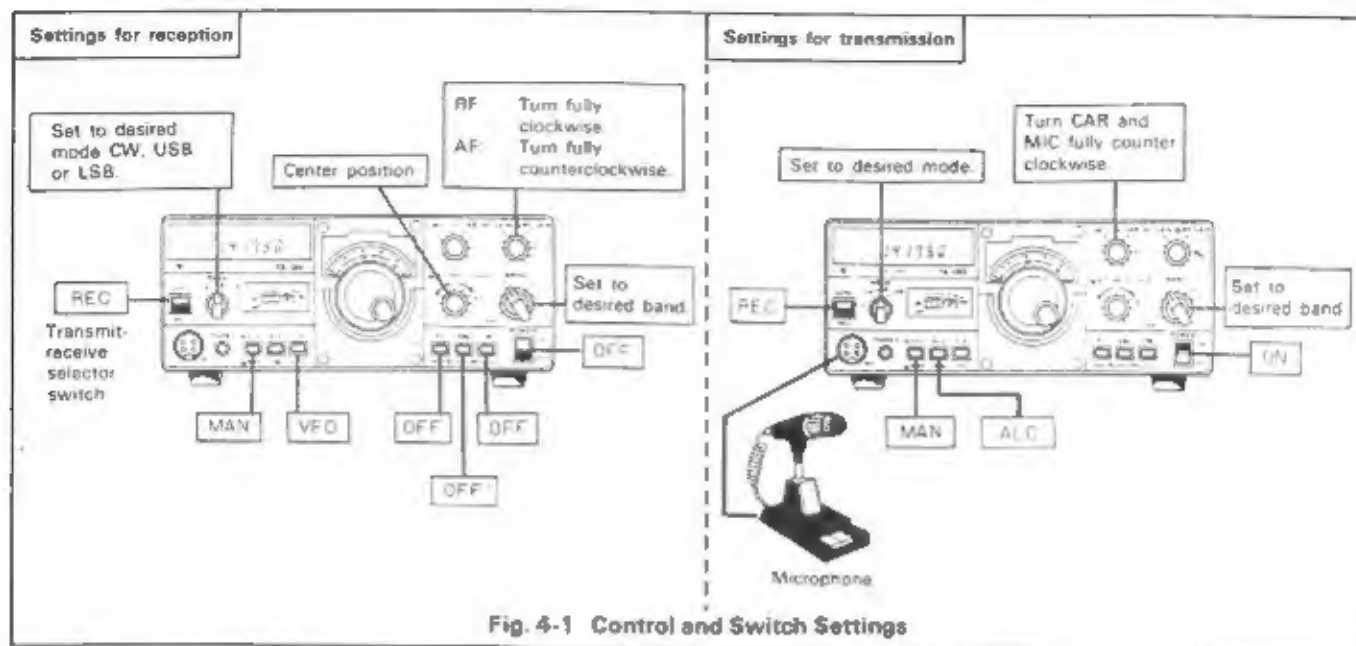

Fig. 4-1 Control and Switch Settings
First connect the antenna, microphone and key. Then, set the controls and switches referring to Fig. 4-1. For SSB operation the MODE switch should be set to comply with common operating practice; that is, it should be set to LSB for the 3.5 and 7 MHz bands and to USB for the bands above 14 MHz.
When testing the transmitter, connect a 50 ohm dummy load rated at more than 100W (TS-120S) 10W (TS-120V). Refer to Fig. 4-1 for initial control settings. When the TS-120S(V) is ready for transmission, use the following procedure: